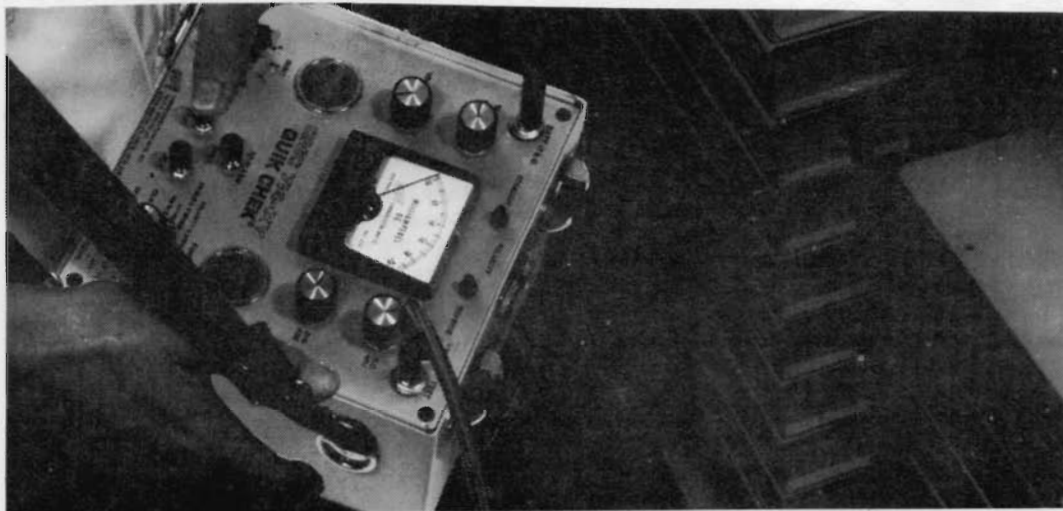

Figure 2 CMC 714-XY Quik Chek® Test Set in Use.
- 4.01 Make the following connections for all tests: (see Figure 2).